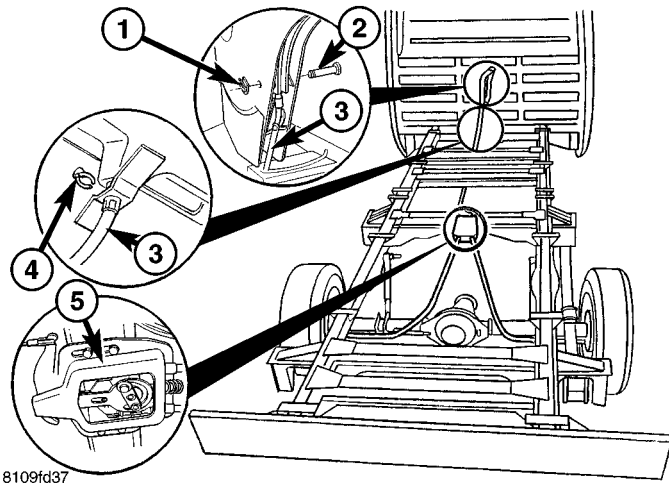

Fig. 32 FRONT PARK BRAKE CABLE
(1) Install the front park brake cable to the vehicle.
(2) Clip the cable guides at the frame cross members (Fig. 32).
(4) Reconnect the front park brake cable to the pulley unit (Fig. 32).